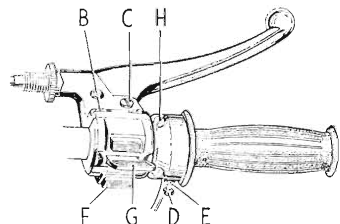

FIGURE 2.
TWIST GRIP:—Mounted on the right handlebar, it controls the throttle opening and consequently the motor speed. To open the throttle (i.e., to increase motor speed) turn the grip so that the top moves towards the rider. Excess slackness in the cable can be removed by means of an adjuster incorporated in the cable. The rotary stiffness of the twist grip can be varied by means of the adjuster screw (D) Fig. 2, and locknut (E). It is set for average requirements when leaving the factory, but can be readjusted to suit individual preference.
FRONT BRAKE:—The lever is mounted on the right handlebar in front of the throttle control and its position can be adjusted after slackening the screws (B) Fig. 2. The looseness of the lever is adjusted by rotation of screw (C) after slackening its locknut. Grip the lever gently to operate the brake. The main adjuster for the 6" diameter brake is situated midway in the cable. Finger adjustment for the cable is provided at the adaptor on the handlebar lever. Provision is made on the lever body for a Motoplas rear view mirror.